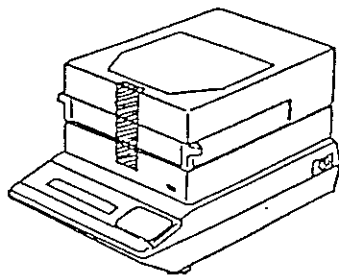
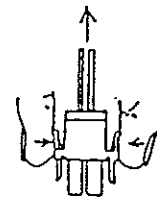
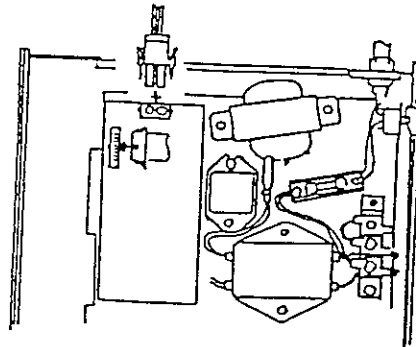

Fig. 5
Fig. 6
Fig. 7
7. Affix a piece of tape to the front of the heater unit as shown in Fig. 5 so that the heater cover will not open accidentally.
8. Holding down the power switch, gently lift the upper case of the balance (4).
9. Disconnect the key switch connector (8) at the front right side of the balance from the J2 connector (11).
10. Disconnect the heater cable (10) at the rear left side of the balance by pressing the levers and pulling gently (See Fig. 6).
11. Remove cable (9) at the rear left side of the balance.
12. Turn over heater cover (7), and remove the four screws (101) (M4 x 12). Separate the heater unit from the upper case of the balance.
13. Take the two cables (9)(10) from the new heater unit and pass them through the hole at the rear of the upper case of the balance.
**Caution!** Ensure that the connectors are properly connected; ie. not in backwards or half inserted. (See Fig. 7)
15. Remove the insulation from the leads of the temperature sensor and the brown cable of the connector assembly (which was cut in step 13). (Refer to Fig. 5 for steps 15 through 20.)